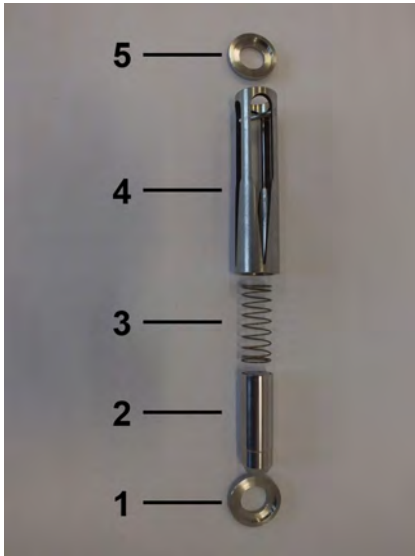

Fig. 47: Inner parts
6. ➤ The inner parts of the flow monitor consists of the centering disc (inlet) (Fig. 47/1), float (Fig. 47/2), spring (Fig. 47/3), slot nozzle (Fig. 47/4) and centering disc (outlet) (Fig. 47/5)